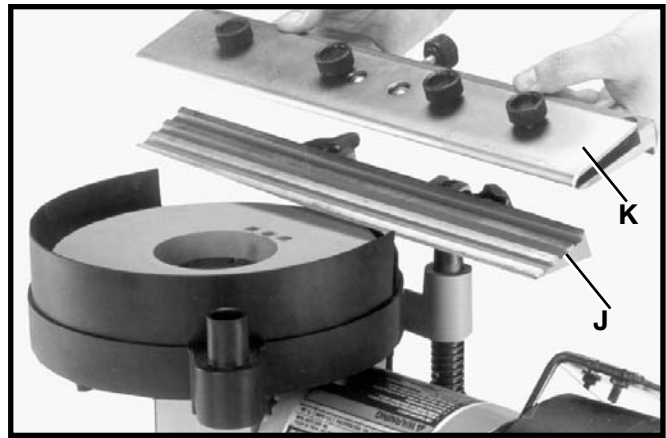

Fig. 40
4. Place sliding tool rest (K) Fig. 40, in position on base (J).